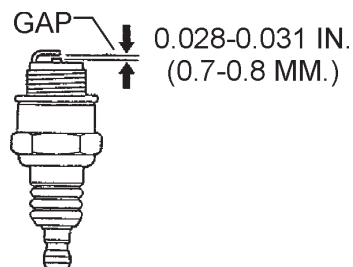

Figure 16. Spark Plug Gap
1. Remove and clean the spark plug (Figure 16).